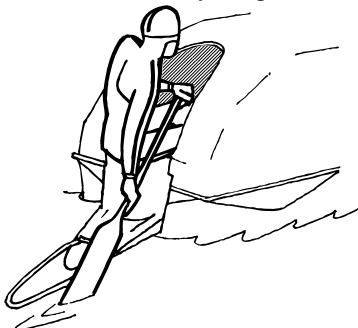

Fig. 5: Paddling with open hatch.
1.6 PROPULSION AND STEERING. (FIG. 5)